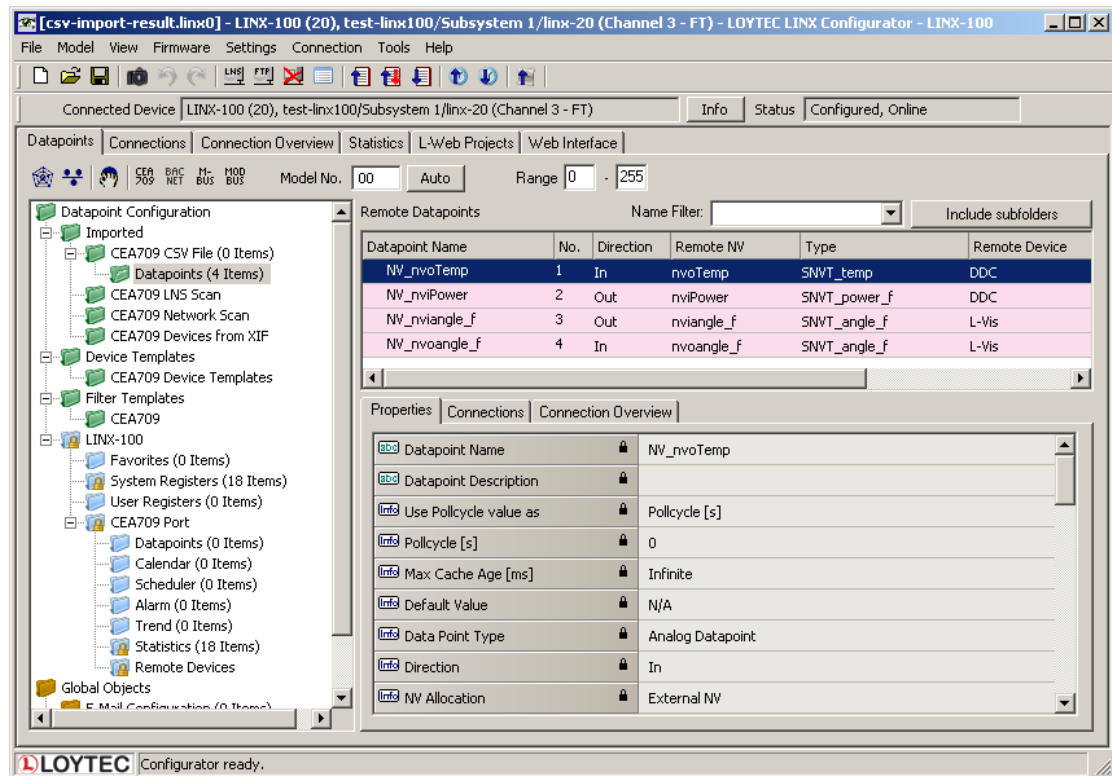

Figure 97: Imported NVs.
- Now the CSV File folder is populated with the imported NVs as shown in Figure 97.